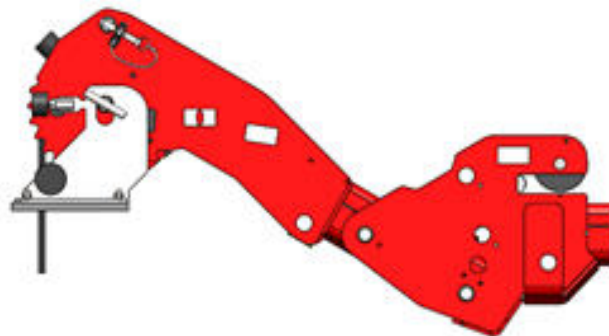

Figure 4.14 Attachment of winch head or manual jib extension to adjustable section
3. Now the winch head or manual jib extension can be attached with the two pins (see *Figure 4.14*).